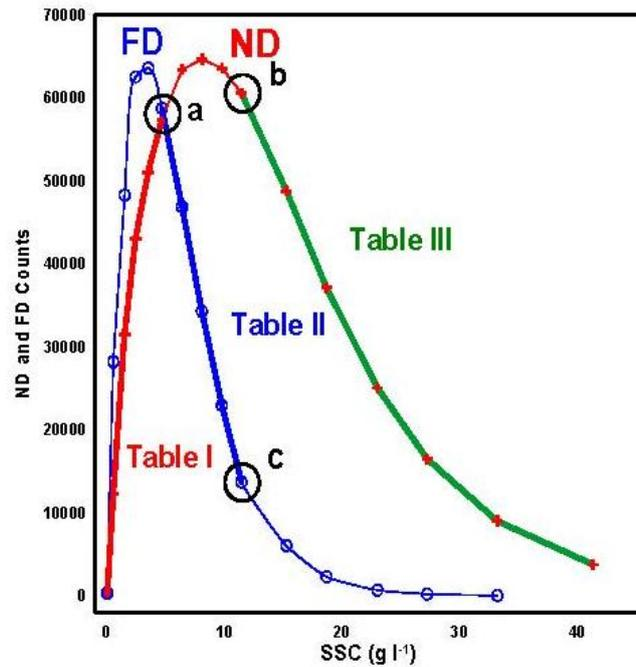

Figure 7-2. Lookup tables and table limits (a, b, and c)
The OBS-5+ uses response curves from the near and far detectors to create three lookup tables like those shown on Figure 4-3 and Figure 7-2. The objective of sediment calibration is to create lookup tables from the sediment you will monitor. The OBS-5+ can store lookup tables for as many as 14 sediments. The fifteenth table is reserved for auto-saved archives.
During a calibration, the first table, highlighted in red, is created from the rising limb of the near detector response between zero counts and point “a” (Figure 7-2). The second table, bold blue curve, is used for mid-range SSC values. It is derived from the descending limb of the far detector curve between points “a” and “c”. High SSC values are estimated from a third lookup table, indicated by the bold green line and point “b”, and are derived from the descending limb of the near detector curve. A calibration consists of a set of 15 to 30 calibration points that each includes an SSC value, a near detector count, and a far detector count.
14) To compute the lookup tables, click the **Calculate Fit** button and supply the requested information. Referring to Figure 7-2, pick point 'a' by counting the number of data points on the ND curve from the origin (0, 0) to the first point beyond where the ND and FD curves cross, 6 in Figure 7-2. Select 'b' at the first point on the falling limb beyond the ND peak where it becomes linear, 10 on Figure 7-2. Point 'c' is the first point in the FD curve where it starts decay exponentially, also 10 on Figure 7-2 9. Points 'b' and 'c' will usually have the same numerical value.